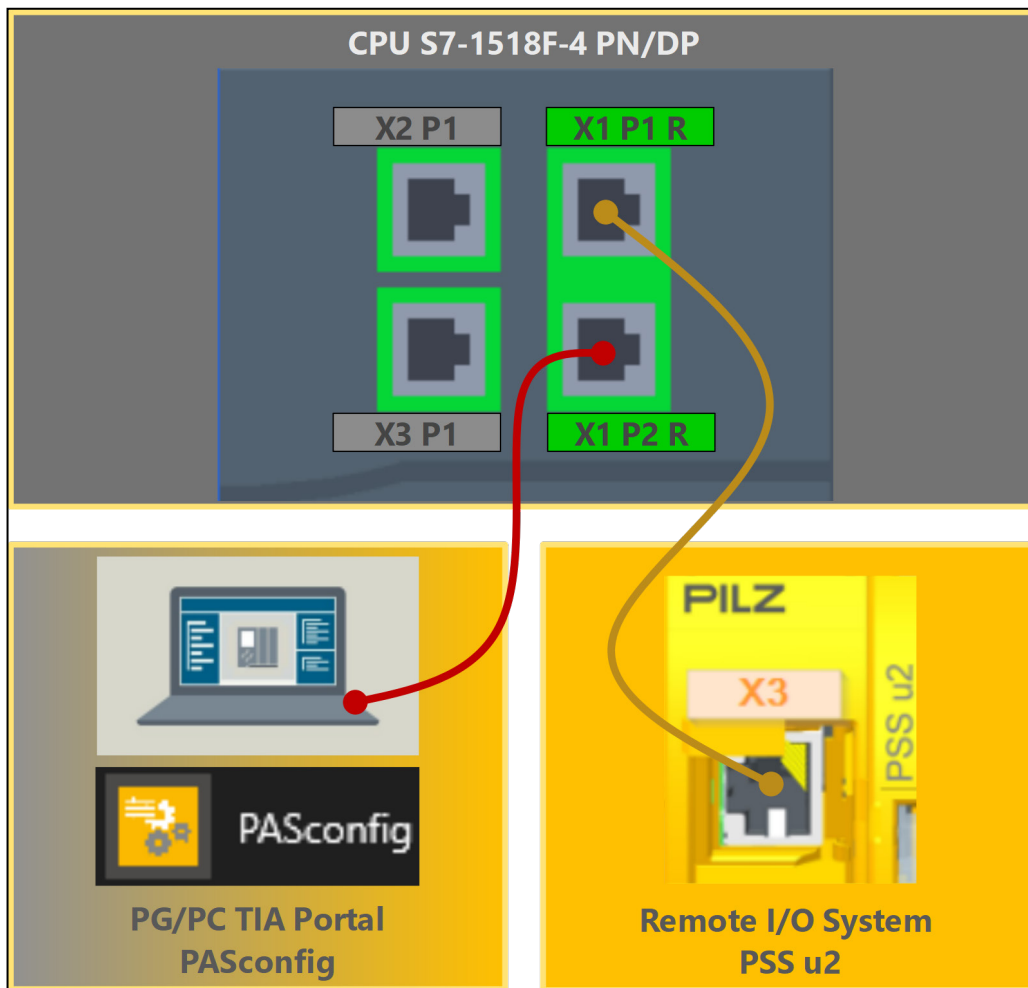

Figure 13: Application – Wiring of Ethernet connections (schematic)
- ▶ Connect the S7-CPU and the I/O system in accordance with [Figure 13 Application – Wiring of Ethernet connections \(schematic\) \[19\]](#):